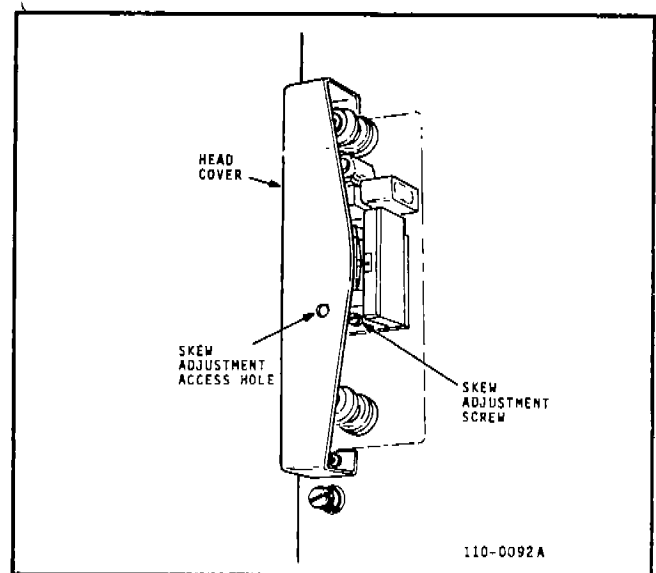

Figure 4-3. Read Skew Adjustment
- d. Observe SKEW indicator and adjust skew adjusting screw on the head mounting plate (Figure 4-3) until indicator does not come on.